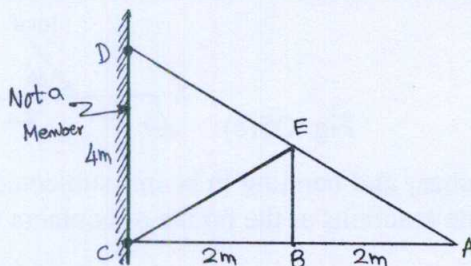

Fig. Q9(b)
b. Determine self weight of the truss shown in Fig. Q9(b). The truss is fabricated with double angle ISA 60 × 60 × 6 mm with weight per meter for each angle is 5.4 kg/m. (12 Marks)